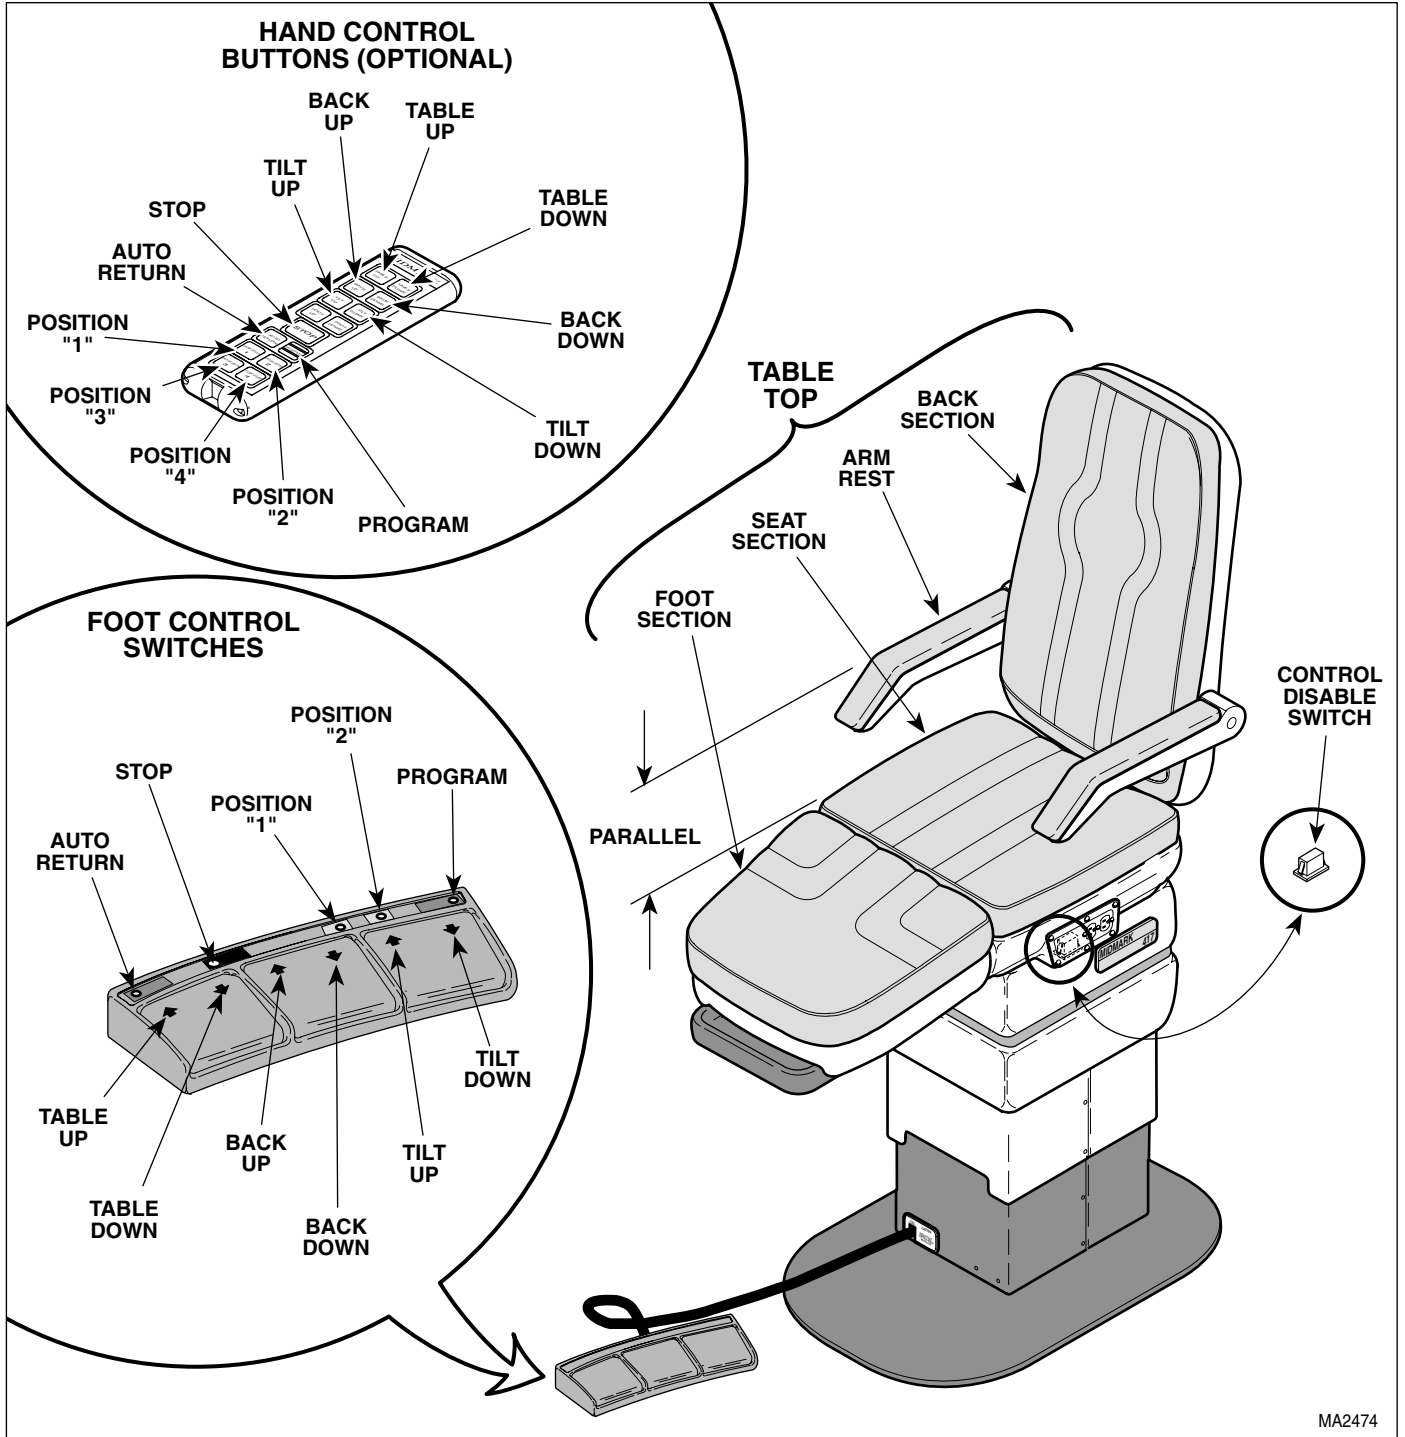

Figure 2-1. Operational Test
2.1 Operational Test (See Figure 2-1)
- (2) Switch the CONTROL DISABLE switch to the disable position (See Figure 2-1).
- (3) Depress TABLE UP, TABLE DOWN, BACK UP, BACK DOWN, TILT UP, and TILT DOWN pedals on foot control.
- (4) Observe. No functions should operate.